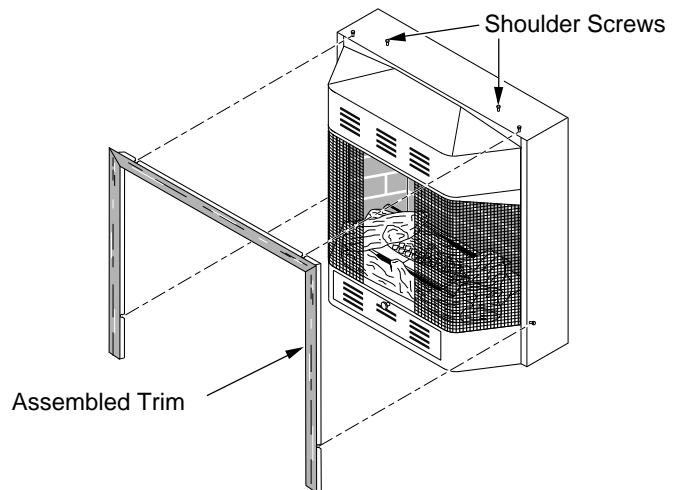

Figure 14 - Attaching Trim to Fireplace
4. Place trim on the shoulder screws located on the side and top of the fireplace. Firmly snap the trim over the shoulder screws on fireplace (see Figure 14, page 10).